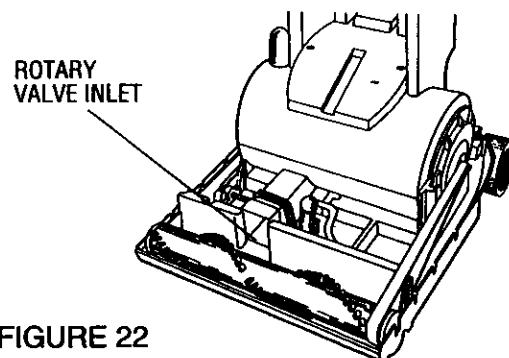

FIGURE 22
- Remove any accumulated dirt or threads from the brush and/or remove any large objects from this area that may have jammed the brush. Also, check that the Rotary Valve Inlet is not clogged with dirt or objects. (Figure 22)
- Check the belt to be sure that it is in good condition. A stretched or faulty belt will prevent the machine from operating properly. (Figure 22)